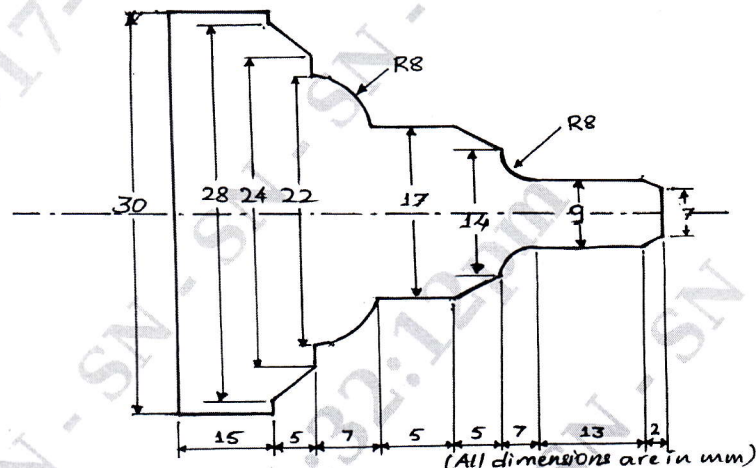

Fig.Q.7(b)
- b. Write a manual part program for multiple turning operation for the component shown in Fig.Q.7(b).